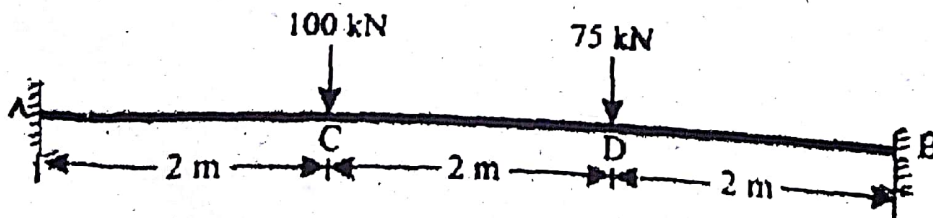

Fig. Q.14(a)
14. (a) Find the plastic moment capacity of the beam shown in Fig. Q. 14 (a). EI is constant throughout.